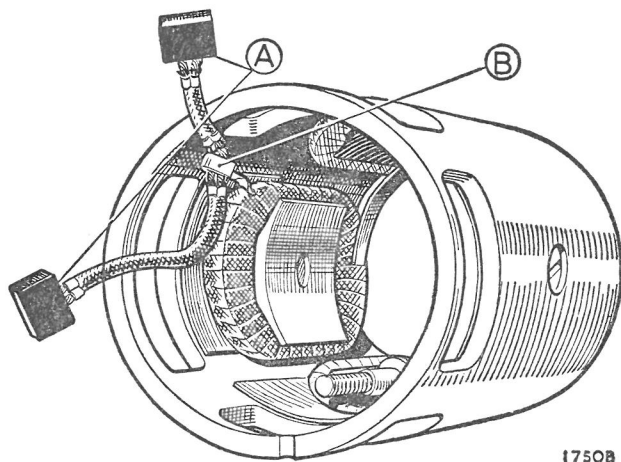

Fig. N.9
- (1) Test the brush springs with a spring balance. The correct tension is 30 to 40 oz. (850 to 1134 gm.). Fit a new spring if the tension is low.
- (2) If the brushes are worn so that they no longer bear on the commutator, or if the flexible connector has become exposed on the running face, they must be renewed. Two of the brushes are connected to terminal eyelets attached to the brush boxes on the commutator end bracket. The other two brushes (Fig. N.9) are connected to tappings on the field coils.